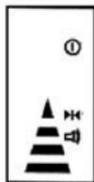

Fig. 9
- If the LCD shows an “up” arrow and emits slow short sounds, this indicates that the laser level signal is located above the detector (Fig. 9).